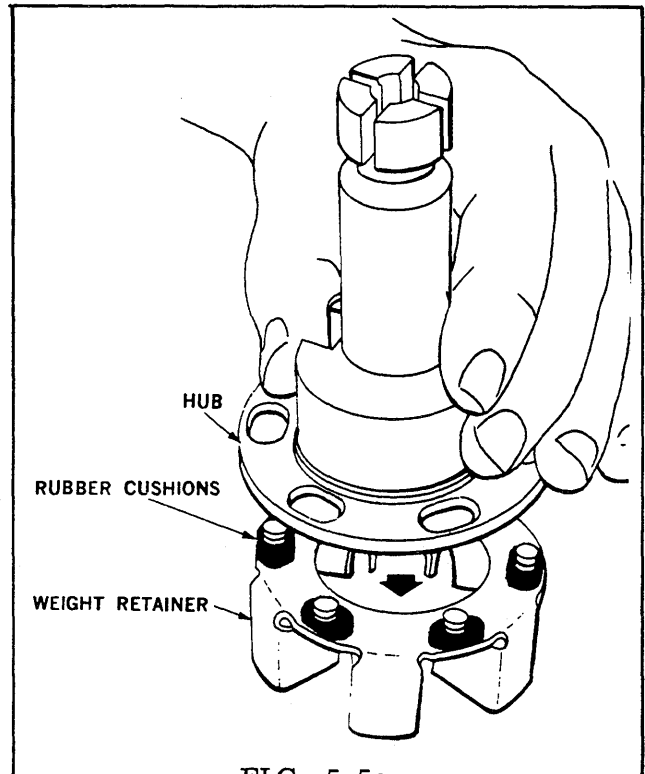

FIG. 5.5a
STEP 5 Place the rubber cushions on the governor weight retainer pins and assemble the hub to the weight retainer (Fig. 5.5a).